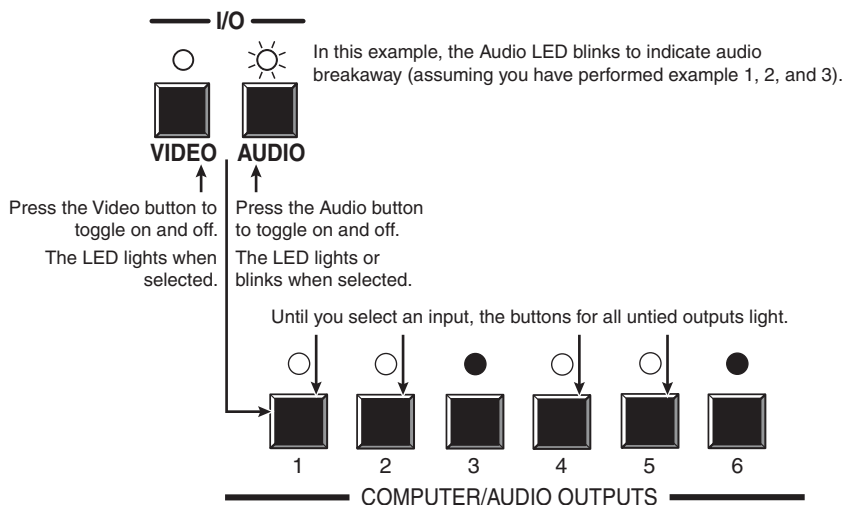

Figure 3-28 — Select video and audio
3. To select both video and audio for viewing, if necessary, press and release the Video button and the Audio button (figure 3-28).